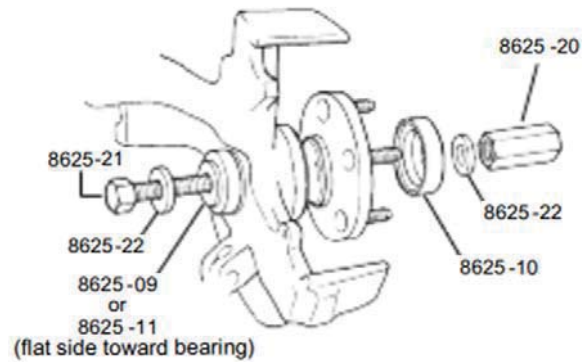

Figure 4
6. Assemble tool components as shown in Figure 4, and install the hub.